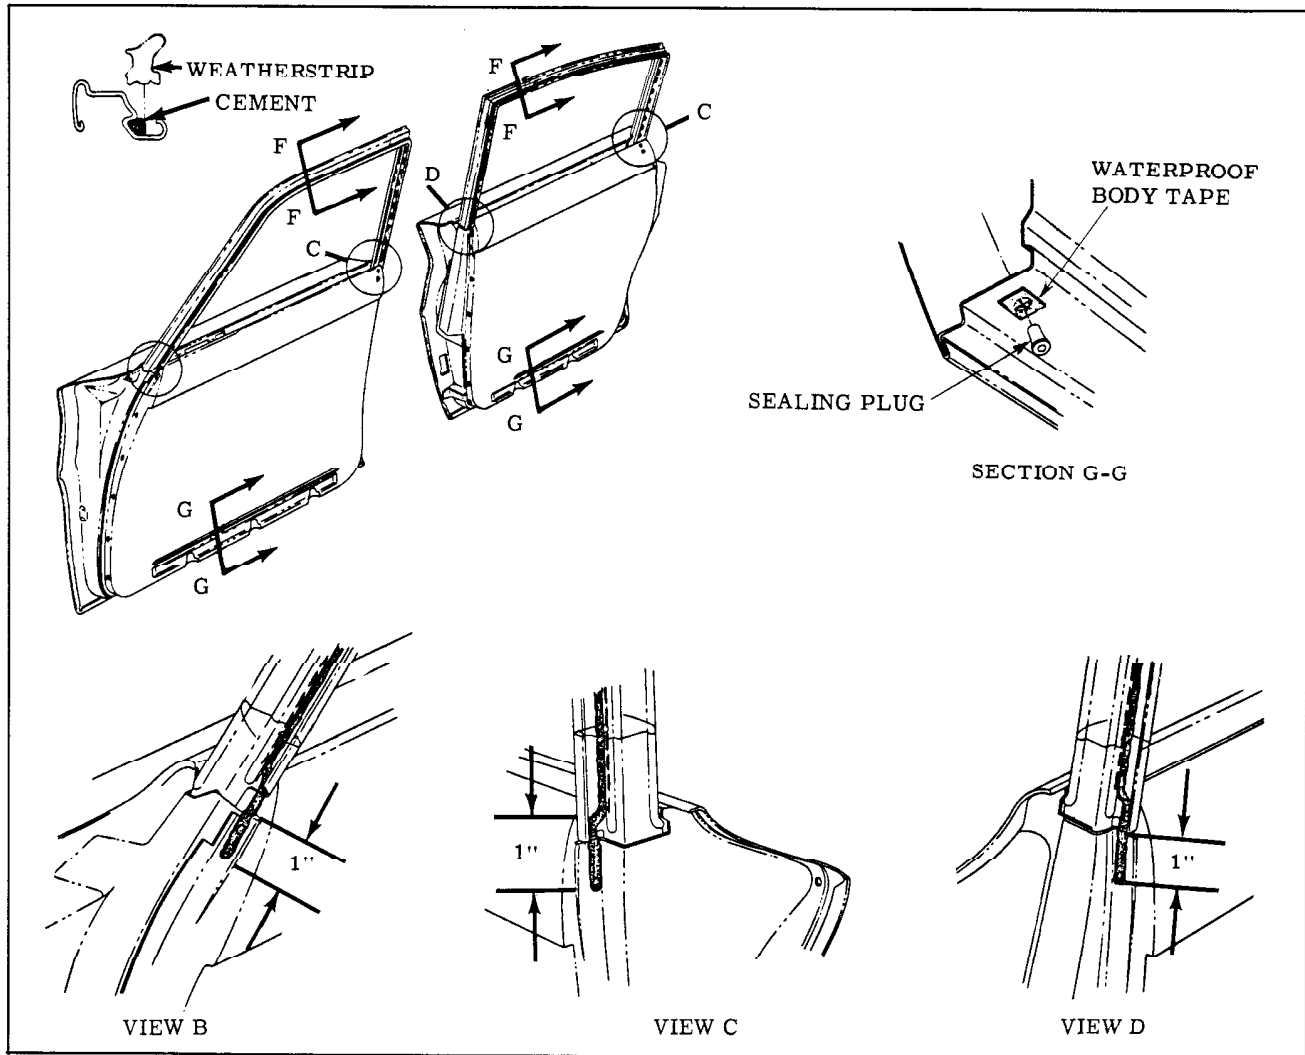

Fig. 15-10 Door Weatherstrips
3. Check all attaching hole sealing plugs. If sealing plugs are loose and will not remain engaged in door inner panel, install a 1/2" x 1" piece of clothbacked waterproof body tape over sealing plug retaining hole as shown in Section "G-G" of Fig. 15-10. Make two 5/16" slits in tape to form an "X". Install plug and check for a snug fit. If plug is still loose, repeat above operation by installing a second piece of tape over existing repair. This procedure may also be used to repair water-leaks which develop at sealing plug locations.
weatherstrip cement extending from approximately one (1) inch below window frame at hinge pillar section (See View "B" or "D") along entire outboard portion of door weatherstrip retaining channel (See Section "F-F") to approximately one (1) inch below lock pillar section of window frame assembly as shown in View "C". (See Fig. 15-10)
engaged in door inner panel, install a 1/2" x 1" piece of clothbacked waterproof body tape over sealing plug retaining hole as shown in Section "G-G" of Fig. 15-10. Make two (2) 5/16" slits in tape to form an "X" pattern. Install plug and check for a snug fit. If plug is still loose, repeat above operation by installing a second piece of tape over existing repair. This procedure may also be used to repair waterleaks that may develop at sealing plug locations.